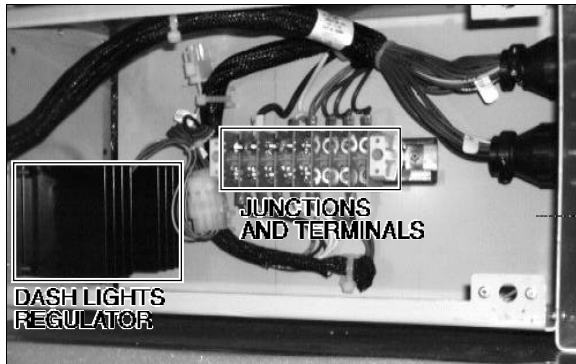

FIGURE 13: IN ALARM JUNCTION BOX 06060
**FRONT ALARM JUNCTION BOX (Fig. 13)**